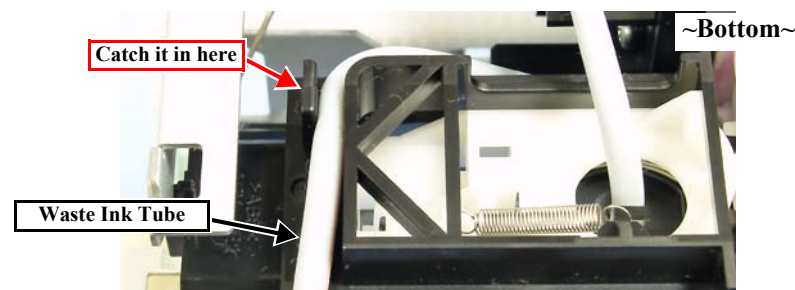

Figure 4-61. Installing the Waste Ink Tube (I/S Assy)
- Catch the Waste Ink Tube in the groove shown in the figure on the bottom of the I/S Assy. (Fig. 4-61)